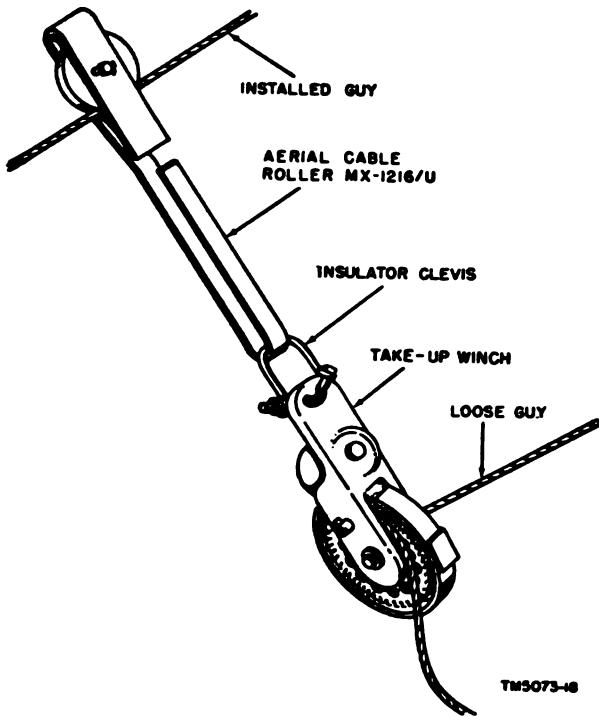

Figure 29. Trolleying guy to ground using Aerial Cable Roller MX-1216/U.
- (c) Attach the insulator clevis to the take-up winch and place the complete assembly on the hook of the aerial cable roller (fig. 29).